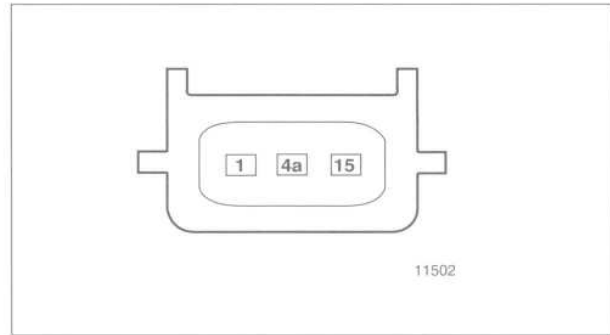

Fig. 7. Ignition coil harness connector terminal identification for M50 and M60 engines.
2. Disconnect the harness connector from the coil. Connect a voltmeter between terminal 15 (+) in the harness connector and ground. See Fig. 7. Turn the ignition on and check for battery voltage.